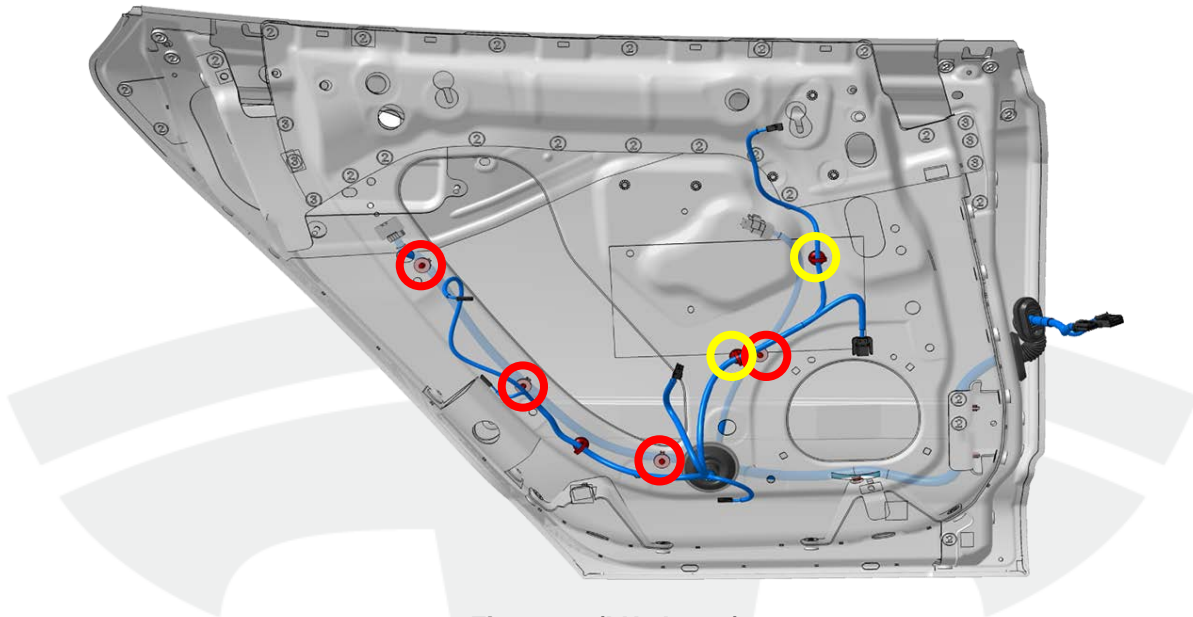

Figure 12 (LH shown)
7. Install the rest of the door harness clips (Figure 12). The red circles show clips that are inserted from inside the door shell; the yellow circles show clips that are inserted from outside the door shell.